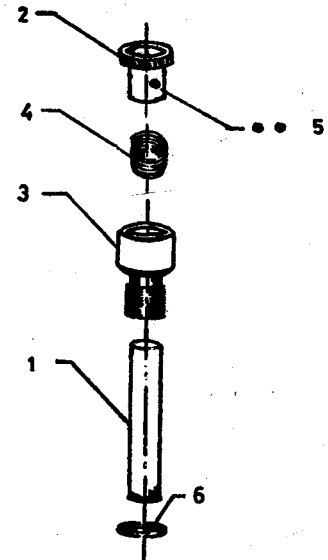

FIG. 16 PATCH DARNER ASSEMBLY
**2.16 Patch Darner Assembly — See Fig. 16.**